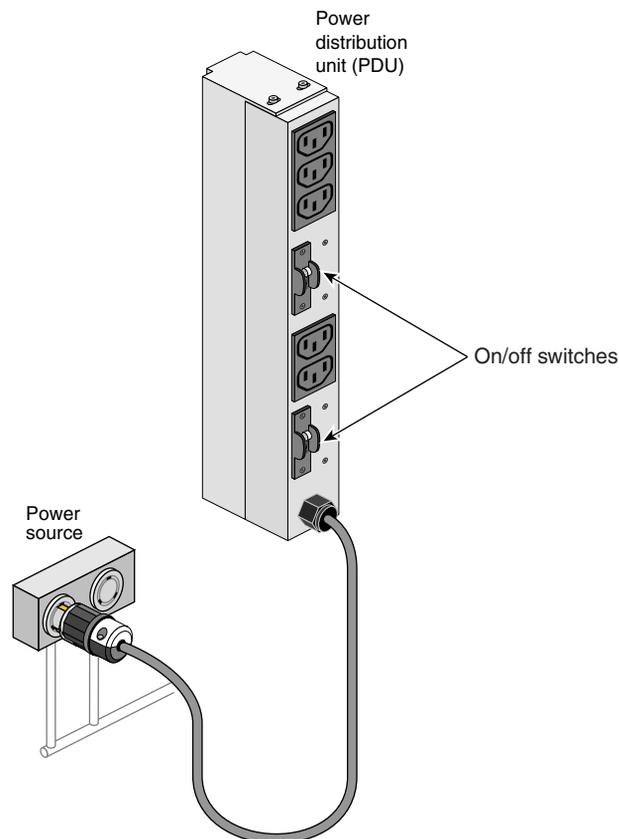

Figure 1-19 PDU Circuit Breakers
3. Turn on the on/off circuit breaker switches of the PDU as shown in Figure 1-19.
2. Turn the circuit breaker switches of the PDU to the on position, see Figure 1-19 on page 39.